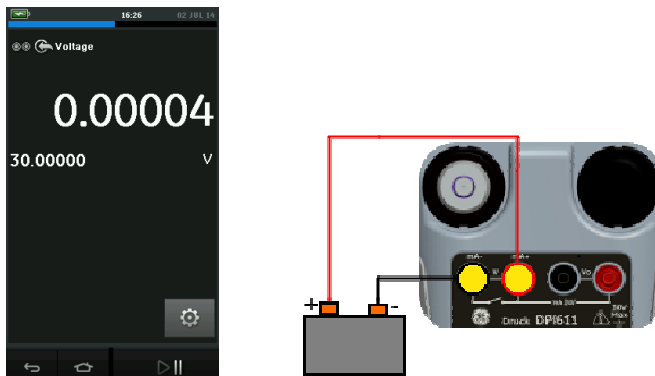

Figure 2-19 Measure DC Volts or DC mV on CH1.
- *Figure 2-19* shows CH1 set-up to measure a DC voltage (± 30 V) or DC mV (± 2000 mV).